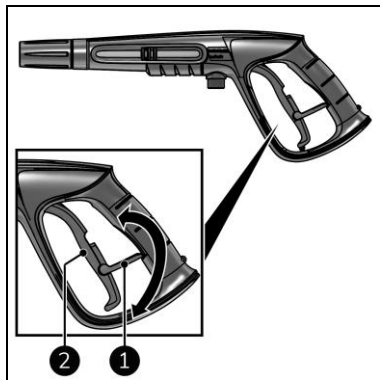

Figure 16
1. If applicable, release the trigger (Figure 16, pos. 2).
2. Turn the trigger (Figure 16, pos. 1) lock.